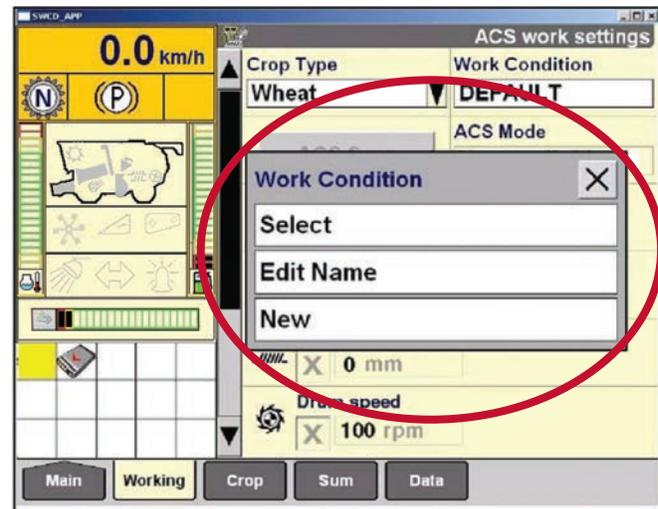

Figure 20.2
- Go to the “Crop Type” window and select the desired crop which allows the operator to select an existing Work Condition, edit the name of an existing condition, or create a new Work Condition (see figure 20.2)